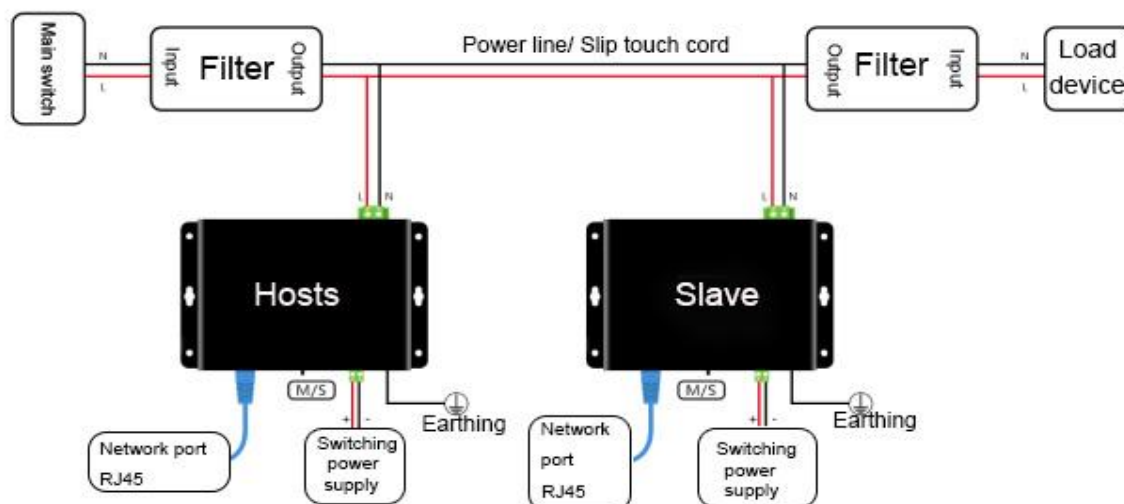

Figure 1
1、Wiring diagram of one master and one slave, as show on figure 1: